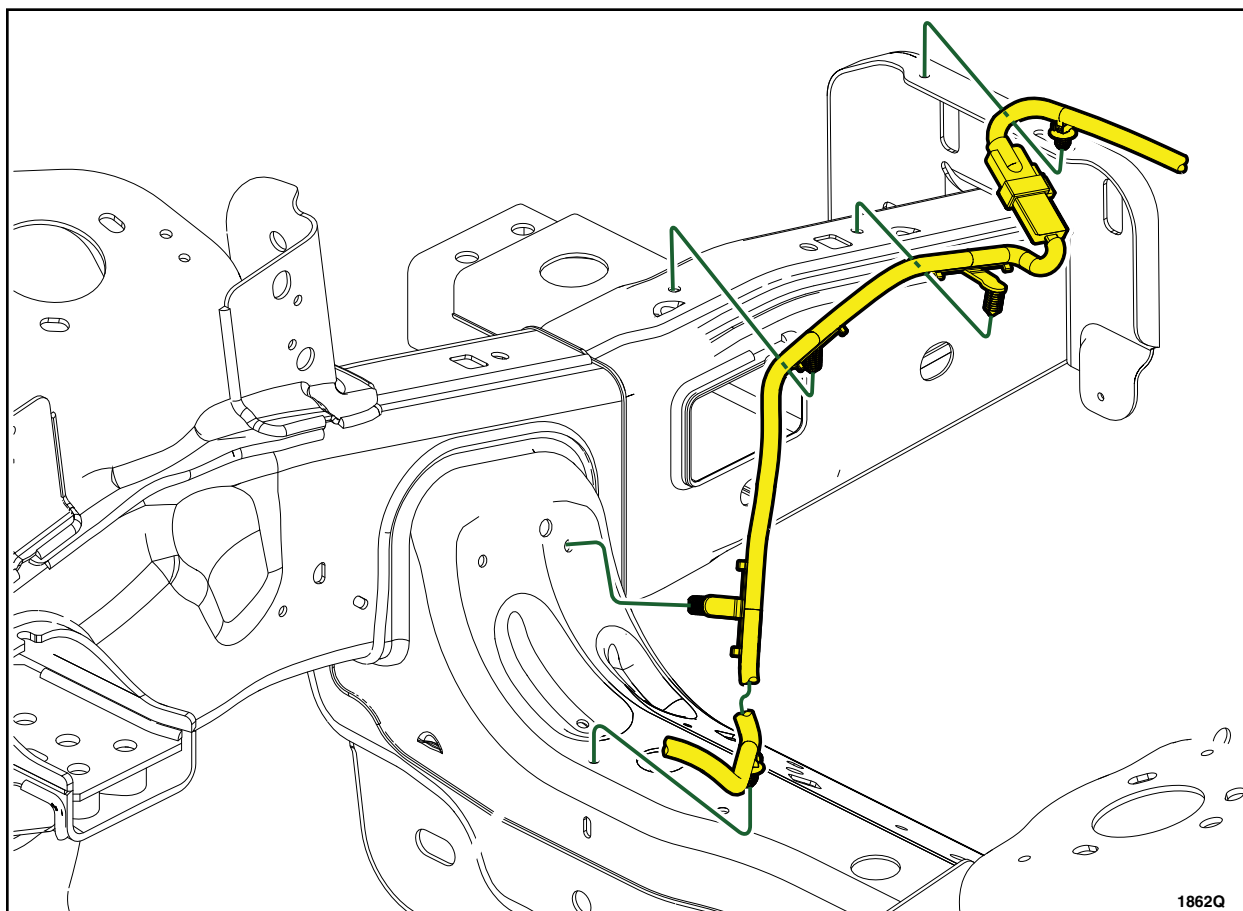

FIGURE 14b
5. Connect the wire assembly in-line connector. See Figure 14b.